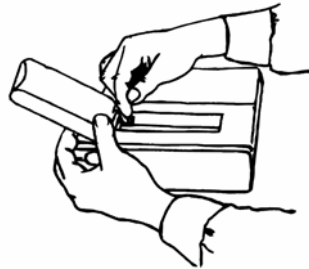

Figure 2
4. Insert the connector of the new battery pack into the plug located in the upper left corner. It can only be inserted one way. See figure 2. Place the battery pack in the battery compartment. Secure the battery pack in the proper position by aligning the Velcro on the battery pack to the Velcro in the battery compartment.